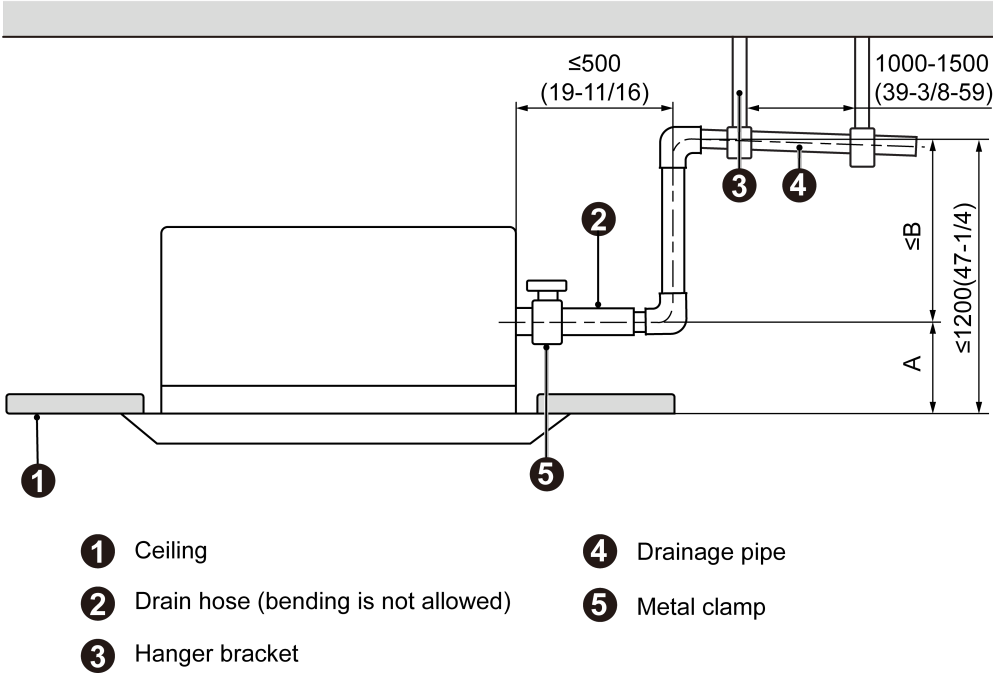

Fig.4.3.7
- (10) The installation height of raising pipe for drainage should be lower than B. The gradient from raising pipe towards drainage direction should be at least 1%~2%. If the raising pipe is vertical with the unit, the raising height should be less than C, as shown in Fig.4.3.7.